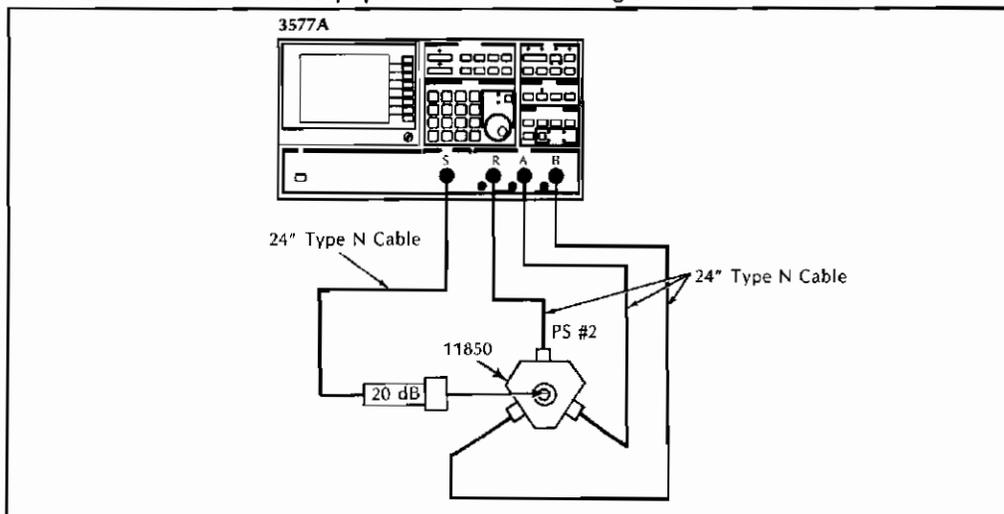

Figure 3-6 Calibration of Transmission Loss
- g. Disconnect the 24-inch cable from receiver R and connect it to the 20 dB attenuator. Connect the equipment as shown in Figure 3-6.